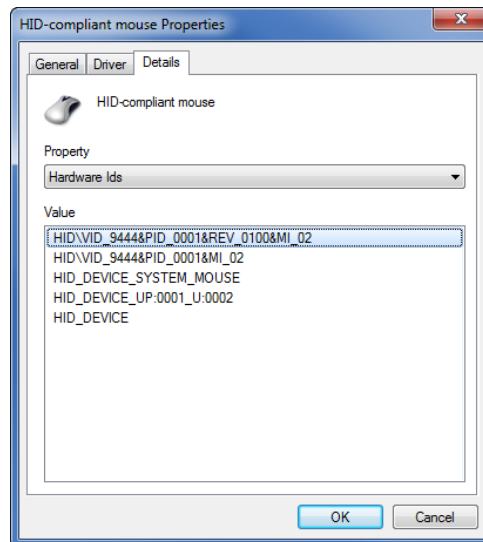

Figure 15. The HID-compliant Mouse Properties Dialog - with Hardware Id Values
3. Select the **Hardware Ids** option from the list. This information will appear in the Value section (Figure 15).